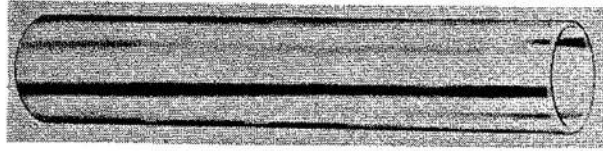

Fig. 4 Abrasion resistant sleeve Part No. 900223
(4) Sleeve Part No. 900223 (fig. 4) is a heat shrinkable polyolefin tubing transparent white in colour and used where a skintight fit is desired. Temperature range of the sleeve is  $-53.8^{\circ}\text{C}$  to  $+135^{\circ}\text{C}$  ( $-65^{\circ}\text{F}$  to  $+275^{\circ}\text{F}$ ). During installation the sleeve is positioned between the end fittings and shrunk onto the hose by application of heat, either in an oven or with a portable heat gun.